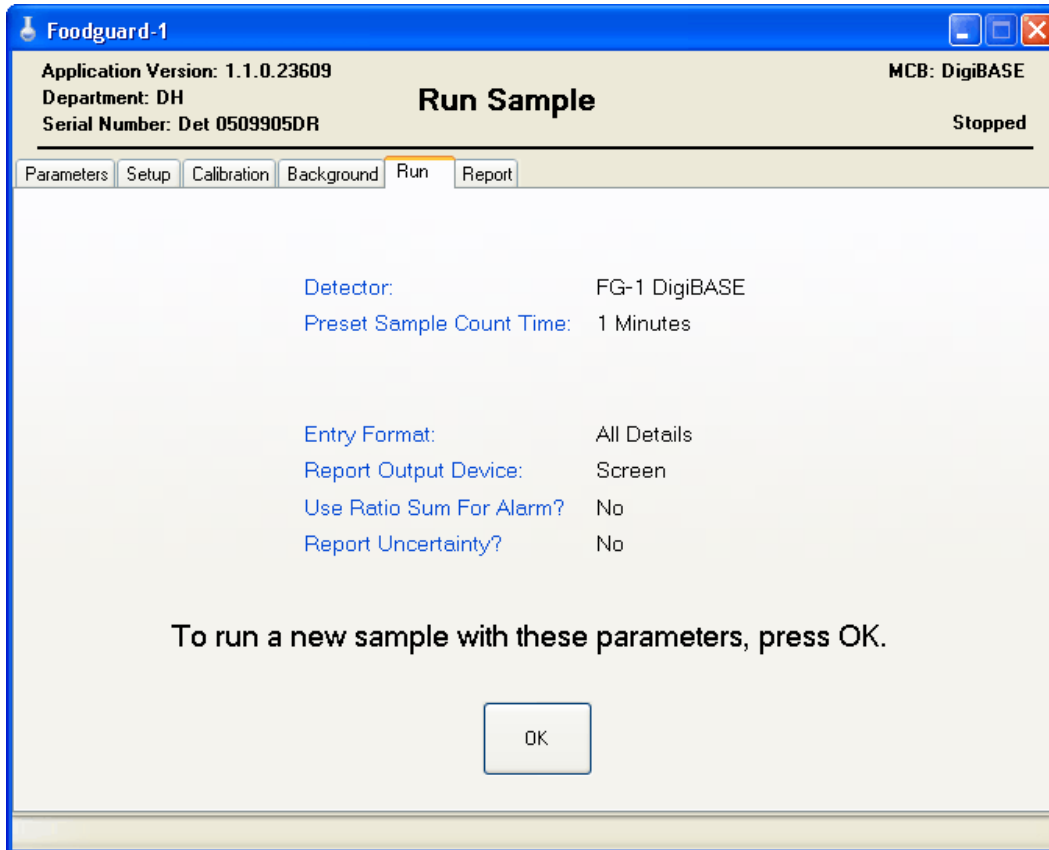

Figure 15. The Opening Screen (always opens on the Run tab).
- FoodGuard-1 always opens on the Run tab (Fig. 15) unless the detector high voltage is off.